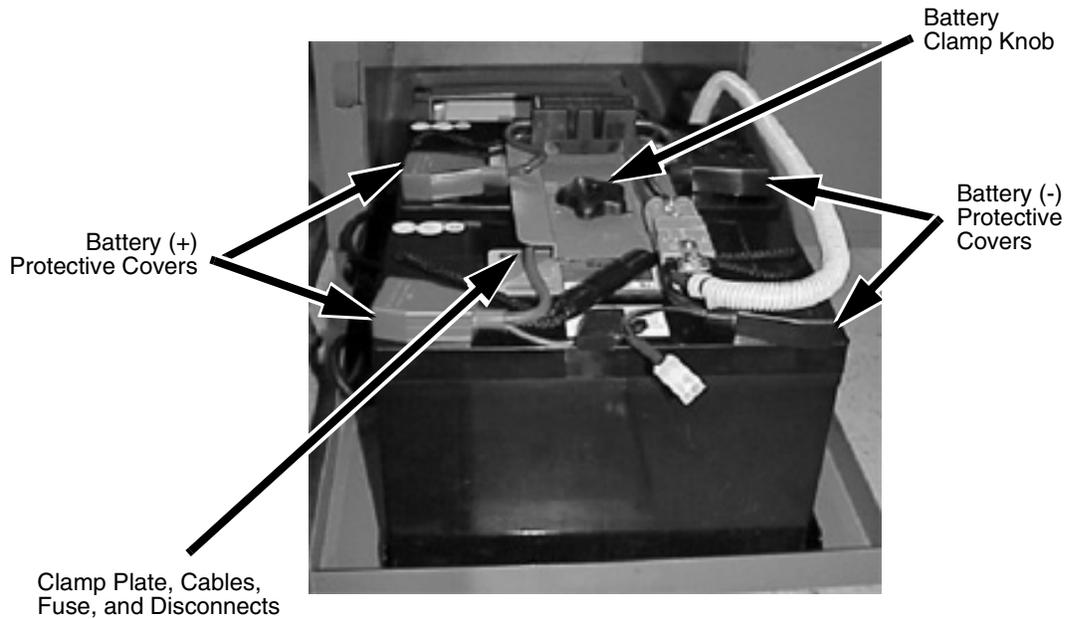

Figure 21. Replacing the Battery
1. Lift the protective covers on the battery (-) terminals and remove the bolts and washers holding the cables in place. See Figure 21 on page 42.